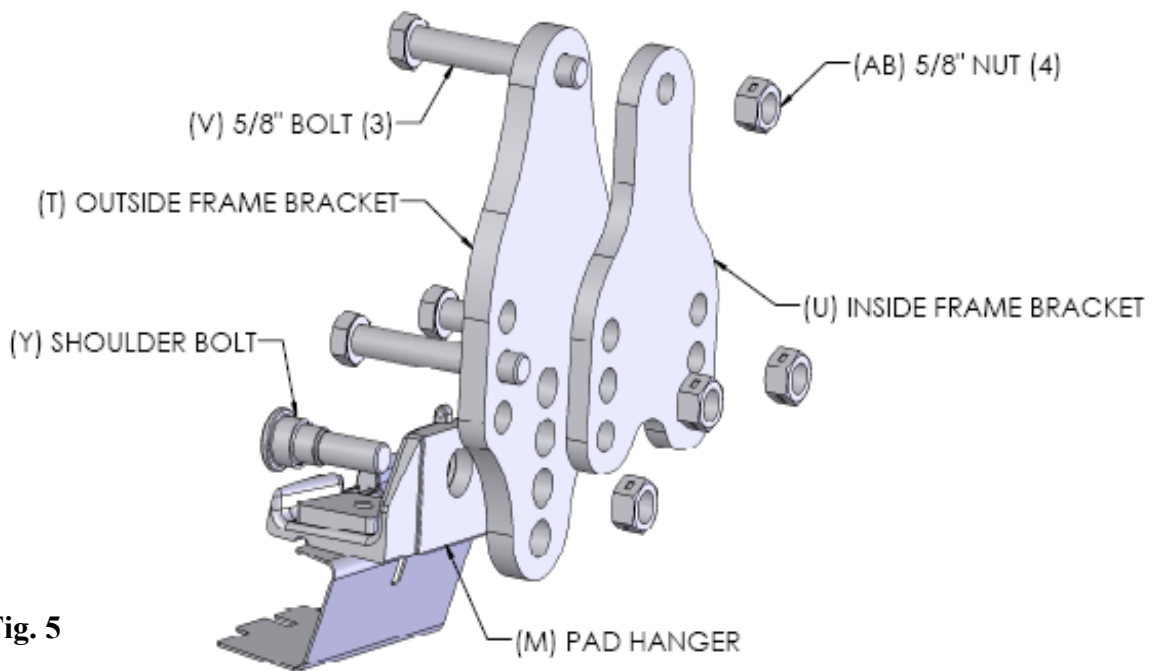
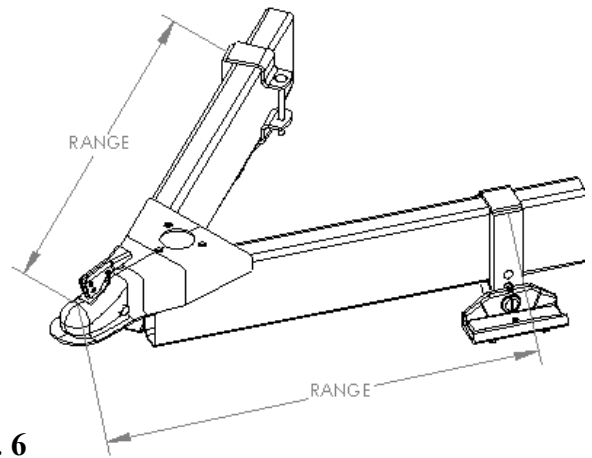

Fig. 5
Fig. 6
- Slide frame brackets into position, the center of the frame brackets should be placed as shown in Fig. 6. See Chart 1 on page 4 for dimension specification.
FRAME BRACKET ASSEMBLY (1200 lb and 1500 lb kits only, shown in Fig. 5)
- Assemble 5/8” bolt (V) through the top holes of the outside frame bracket (T) and inside frame bracket (U) shown in Fig. 5.
- Install three 5/8” nuts (AB) and hand tighten.
See Fig. 6